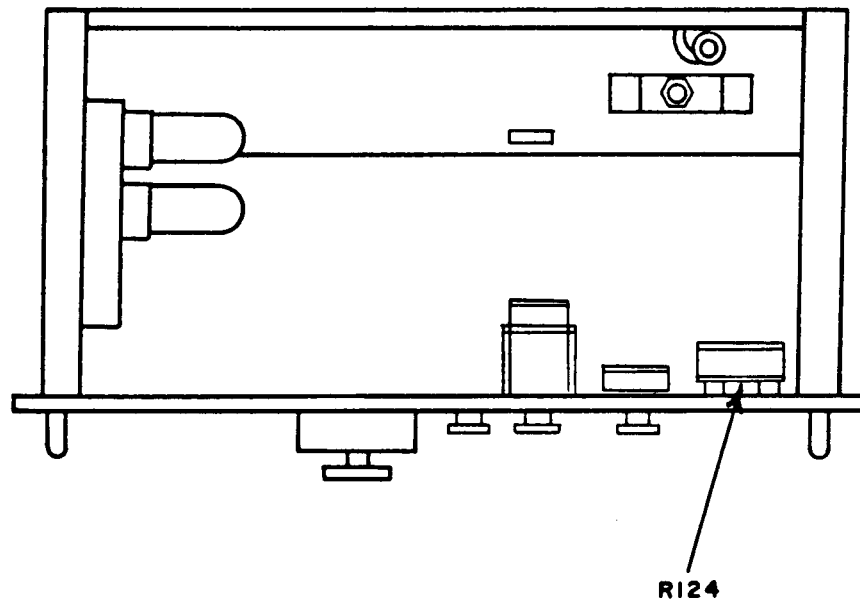

Figure 1. Radar test set - bottom view.
It may be necessary to adjust R124 (fig. 1) to obtain **SET ZERO** indication in (7) above for the TS-147 ().